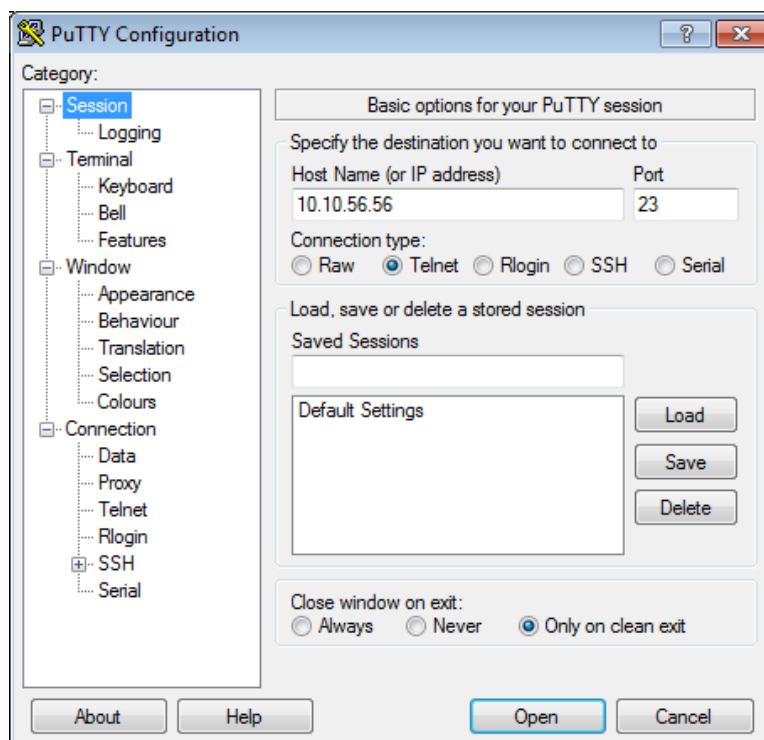

Figure 5-3: Using PuTTY terminal emulation software – selecting and configuring a Telnet connection
- 2- Start PuTTY, select a **Telnet** connection and enter the IP address (**Host Name (or IP address)**) of the CPUM card, as shown in Figure 5-3. (Telnet always uses TCP port number 23 (**Port**).)